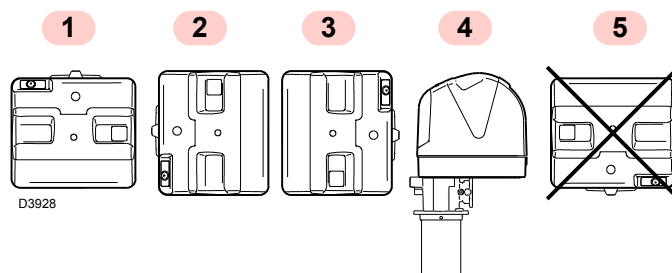

Fig. 9
- The burner is set up to operate only in positions 1, 2, 3 and 4 (Fig. 9).